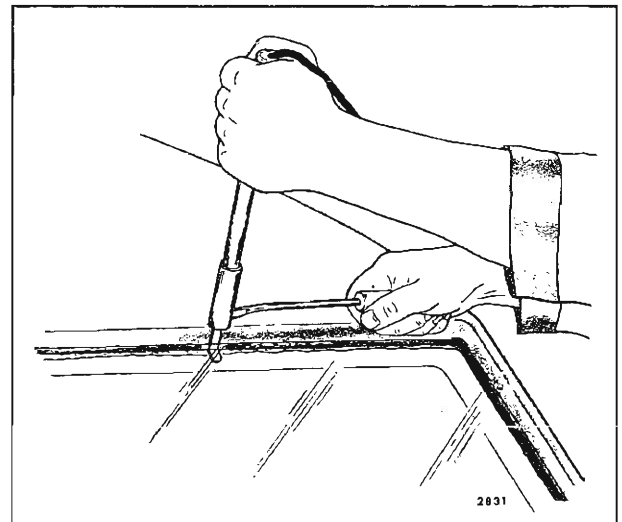
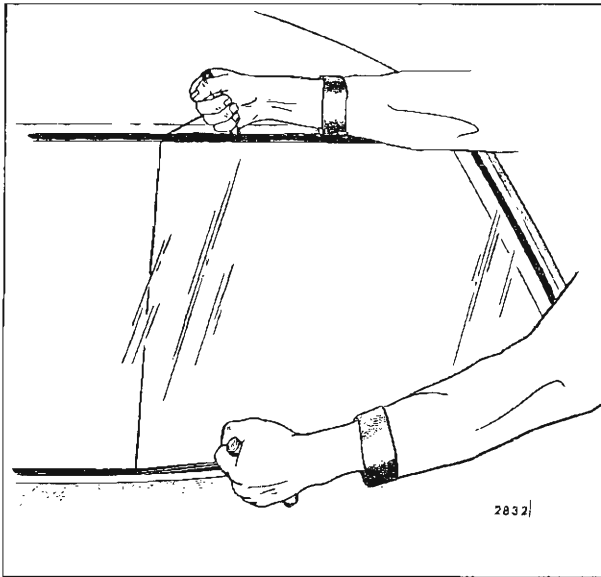

Fig. 4-3—Electric Hot-Knife Removal Method
Fig. 4-4—One Man Wire Removal Method
**NOTE:** Optional methods of glass removal which require only one man are: (1) the electric hot-knife (Fig. 4-3) and (2) pulling the cutting wire through upper and lower edges of glass simultaneously (Fig. 4-4). For the latter